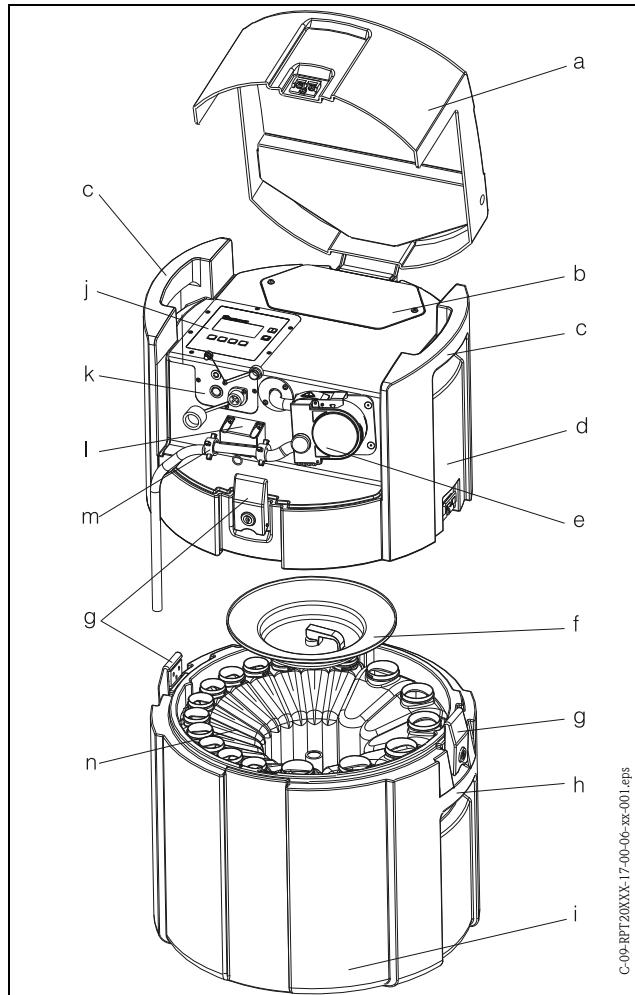

Fig. 2: Split elevation view
1. Unscrew the battery compartment cover (Fig. 2, pos. b).
5. Once the battery has been successfully connected, replace the battery compartment cover and screw down tight (Fig. 2, pos. b).
4. Screw the sampling hose to the hose connection on the unit (=> Fig. 2, pos. m).